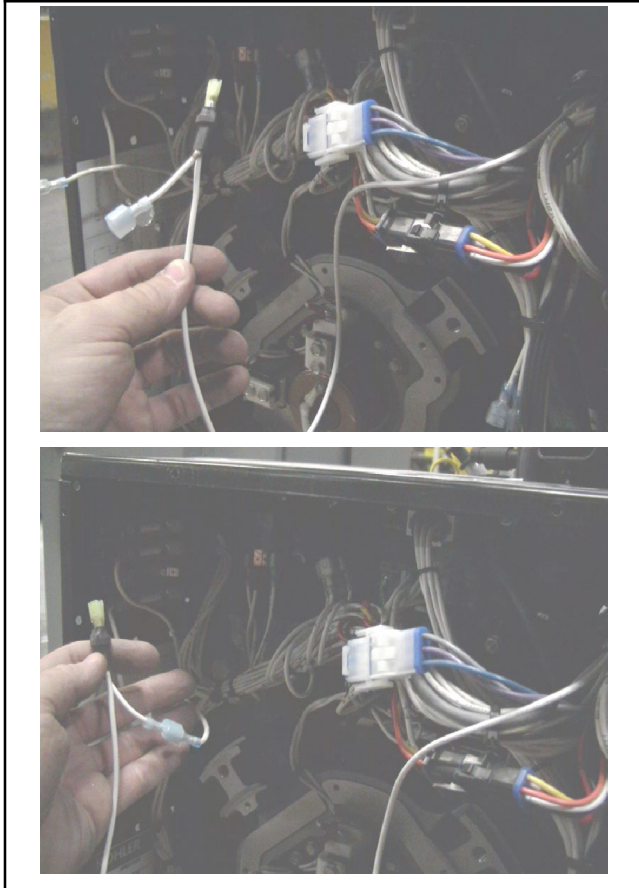
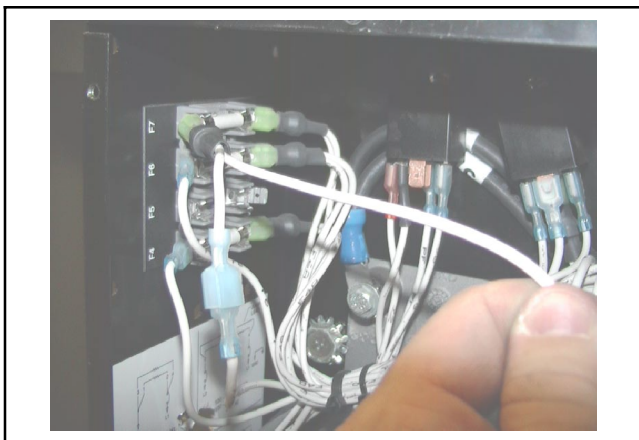
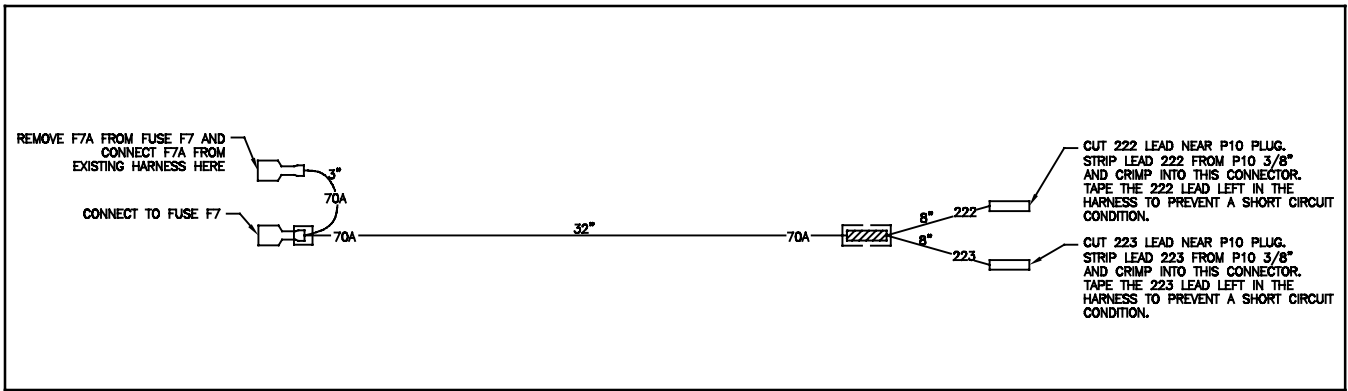

Figure 13 Connect Lead F7A
Figure 14 Connect the Remaining Terminal
Figure 19 Harness GM64331 Instructions
13. Connect lead F7A from the existing harness to the new harness (GM64331) as shown in Figure 13 and Figure 19.
14. Connect the remaining terminal from the new harness (GM64331) to fuse F7. See Figure 14 and Figure 19.